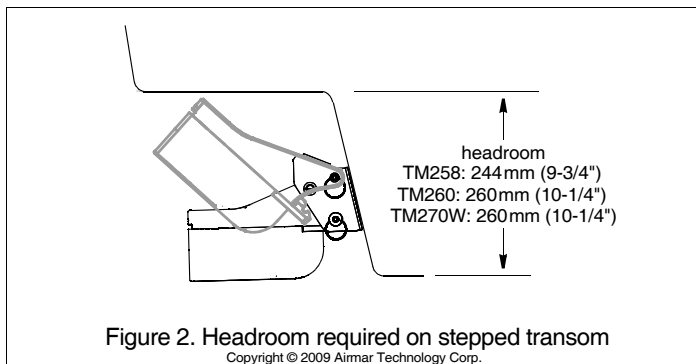

Figure 2. Headroom required on stepped transom
- **Stepped transom**—Mount the transducer on the lowest step being sure there is enough headroom for the bracket to release (see Figure 2).